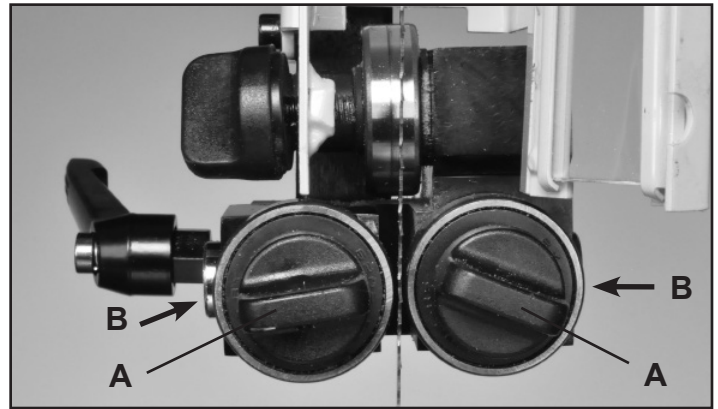

FIGURE 22
1. Position the right and left roller guides relatively close to the blade. First, loosen their front Lock Handles (#21C, Fig 22, A). The Guide Shafts (#25C) that hold the guide bearings are spring loaded! To move the guides towards the blade, simply push the ends of the guide shafts (B), or use the front lock handles to pull the guides towards the blade. Lock the guides in place. Fig. 22.